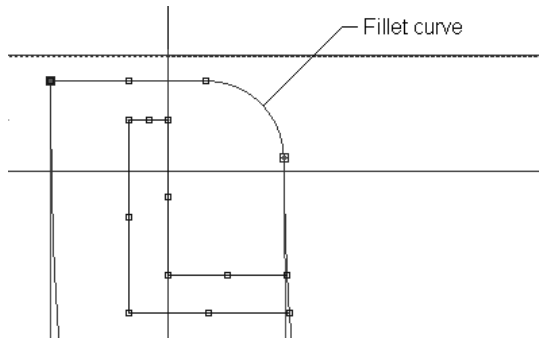

Figure 7-85 First fillet curve created between line and curve
13. Choose the **Accept** button; the fillet curve is created between the two curves, as shown in Figure 7-85.